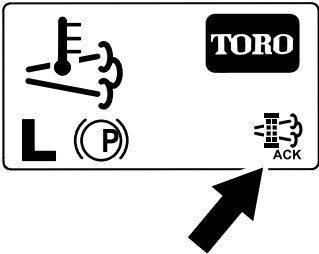

Figure 57
8. The InfoCenter displays the home screen and the regeneration acknowledge icon (Figure 57) appears in the lower right corner of the screen as the regeneration processes.